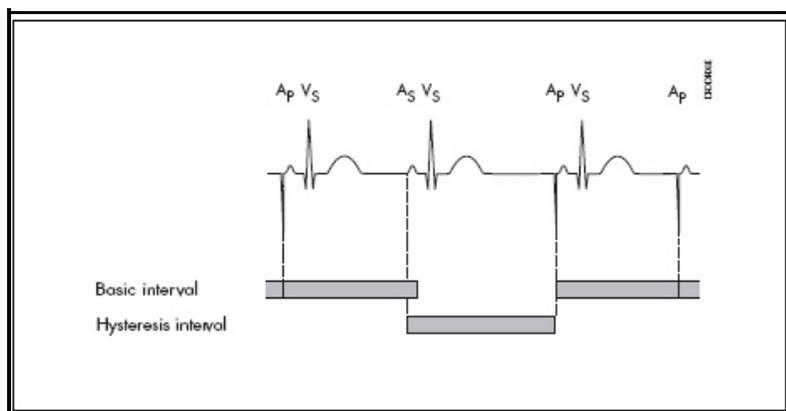

Figure 7: Basic rate and rate hysteresis in DDD mode
To preserve a spontaneous rhythm once it occurs, a rate hysteresis can be programmed in the modes DDD(R), DDT(R), DDT(R)/A, DDT(R)/V, DDI(R), VDD(R), VDT(R), VDI(R), VVI(R), VVT(R), AAI(R) and AAT(R). In this case, the pacemaker, after detecting a sense event, "waits" not only for the duration of the basic interval for a new sense event, but also for the duration of the longer hysteresis interval before pacing occurs. This means that the pacemaker tolerates a spontaneous rhythm whose rate lies below the basic rate. However, the intrinsic rate must be higher than the rate that corresponds to the hysteresis interval. If a sensed event does not occur within the hysteresis interval, a pacing pulse is delivered at the end of the hysteresis interval. The next interval then conforms to that of the basic rate or the interval determined by the sensor (See Figure 7).